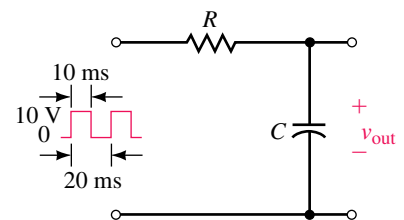

FIGURE 11-67
43. A step is applied to the circuit of Figure 11-67. If $R = 150 \text{ }\Omega$ and $C = 20 \text{ pF}$, estimate the rise time of the output voltage.
44. A pulse train is input to the circuit of Figure 11-67. Assuming that the capacitor is initially uncharged, sketch the output for each set of values below after the circuit has reached steady state: